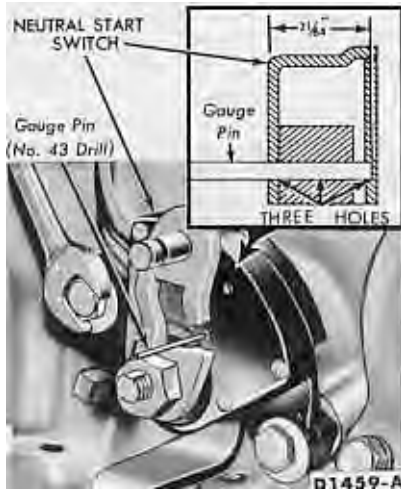

FIG. 20—Neutral Start Switch
1. With the manual lever properly adjusted, loosen the two switch attaching bolts (Fig. 20).
has to be inserted to a full $\frac{31}{64}$ inch into the three holes of the switch (Fig. 20).
2. Apply penetrating oil to the downshift lever shaft and nut. Remove the transmission downshift outer lever retaining nut and lever (Fig. 20).
6. With the transmission manual lever in neutral, rotate the switch and install gauge pin (No. 43 drill) into the gauge pin hole (Fig. 20).